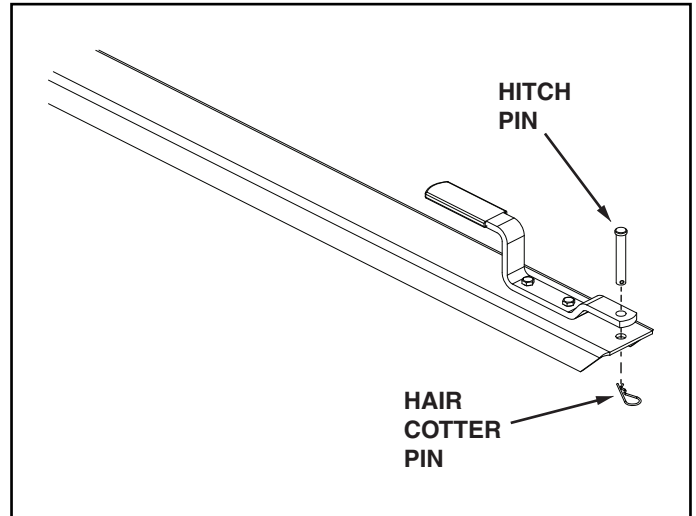

FIGURE 6
9. Secure the hitch pin to the hitch bracket and tongue with the hair cotter pin. See figure 6.